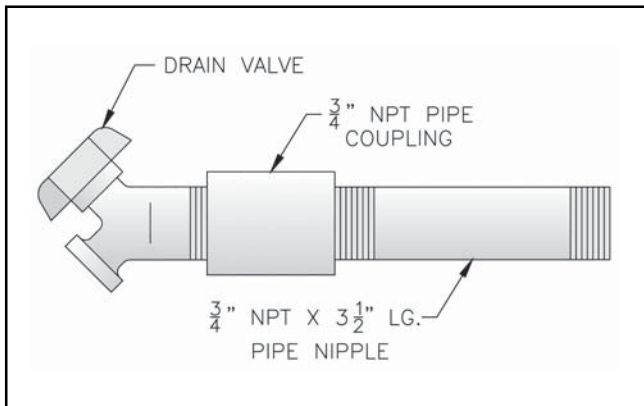

Figure 21: Drain Piping Installation
D. Install Drain Valve in rear of Left End Section, Tapping "G". See Figure 21. Components are located in Water Trim Carton.